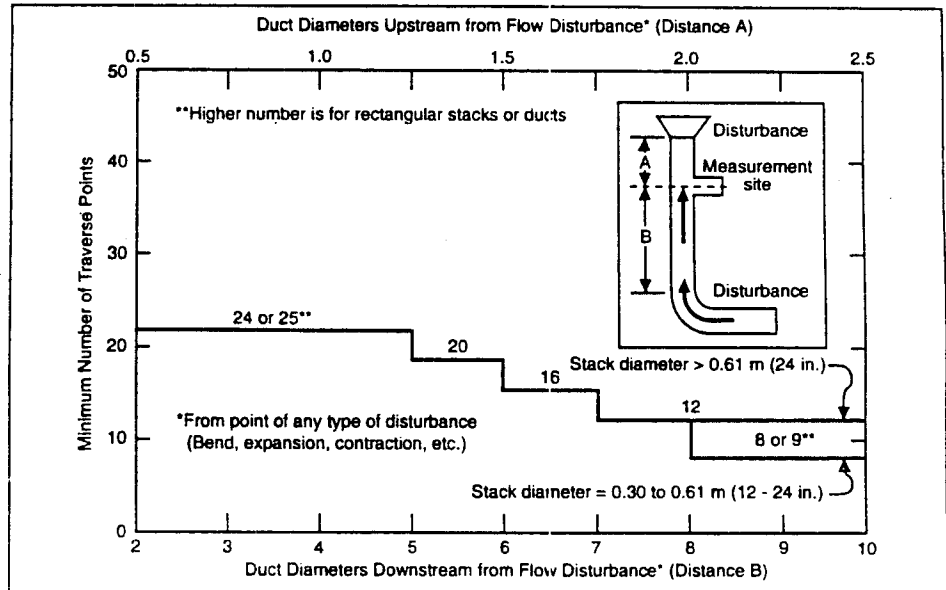

Figure A-3. Minimum number of traverse points for particulate traverses
Step 4. Determine the number of traverse points for a particulate traverse using Figure A-3.